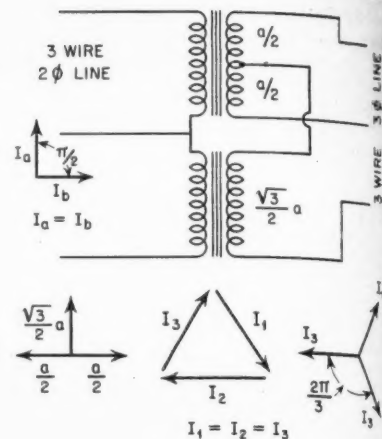

Figure 6
Fig. 6 represents the general phase of K transformers in series. It would seem reasonable to expect that a general formula similar to (2) could be devised for this case. However, the impedance presented to the power source in one case is directly proportional to the power absorbed and in the other case is inversely proportional to the power absorbed. It would therefore seem logical to expect that
connection is intended to transform two-phase quadrature voltages to three-phase voltages with 120 degrees mutual phase difference. The Scott connection is shown in Fig. 6. The Scott transformer is a special case of a more general theorem. The Scott connection starts with equal quadrature voltages and delivers three equal voltages with equal phase displacement.